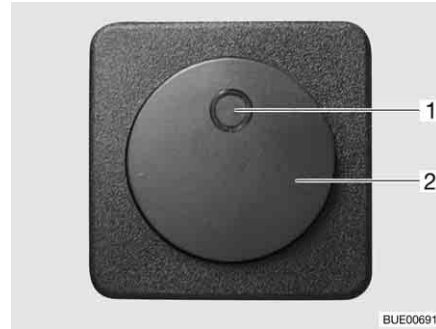

Fig. 109 Switch for electrical floor warming unit
- Press the rocker switch (Fig. 109,2). The indicator lamp (Fig. 109,1) on the switch is illuminated.
- Press the rocker switch (Fig. 109,2). The indicator lamp (Fig. 109,1) on the switch goes off.